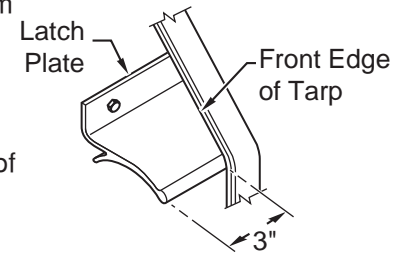

Figure 56
1) Figures 56 & 57. Locate the latch plate 3" forward of the front edge of the tarp and 1"-5" below the top rail or as high as possible.